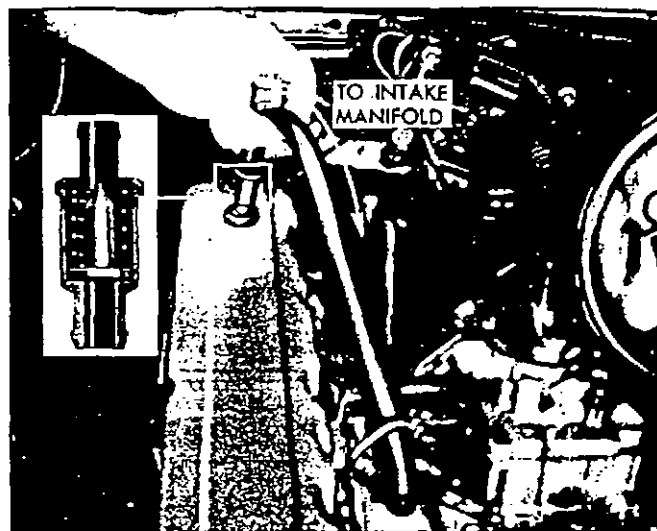

Fig. 20—Installing P.C.V. Valve
4. A change of less than 50 rpm indicates a plugged ventilation valve - replace the valve (fig. 20).